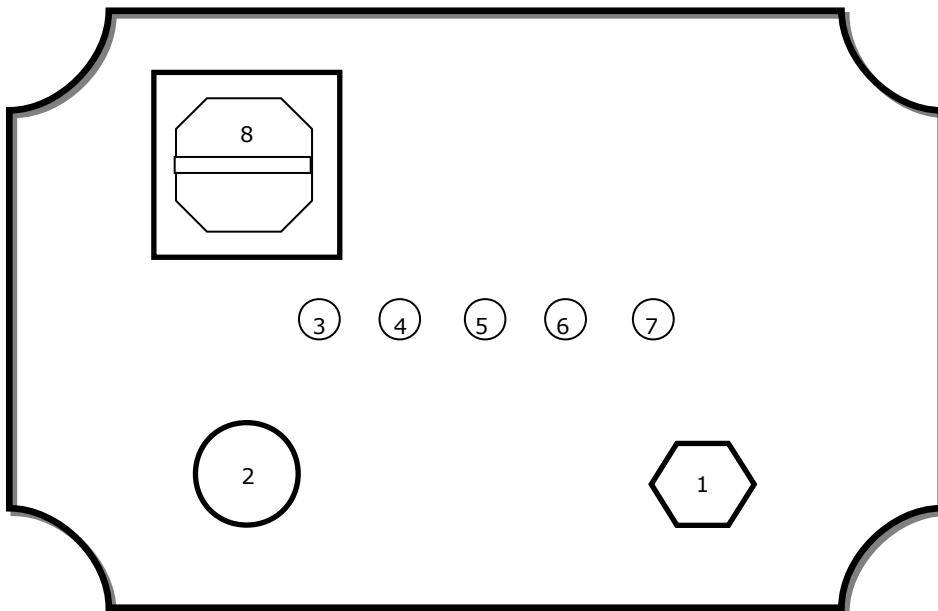

fig. 2
The machine has a unique control panel on which there are all the controls (fig. 2).
- Put the key in the pivot 10 (fig. 2) and turn it anti-clockwise to loose it and to move the roller 25.